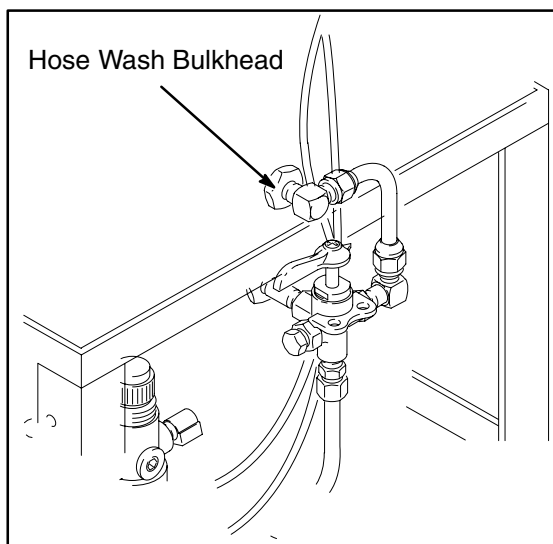

Fig. 4
2. Connect one end of the hose to the Hose Wash Bulkhead fitting. See Fig. 4.
NOTE: All gun washer models include a pump air filter/regulator that has been preset at the factory; do not readjust it. See Fig. 4, page 15.